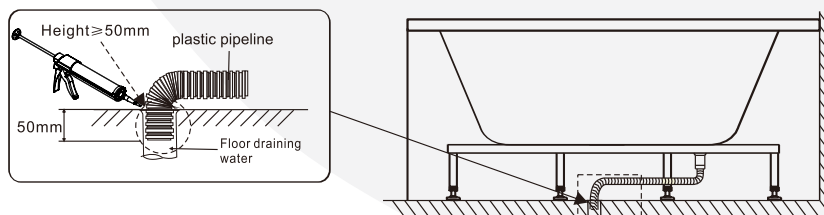

Figure 12
1. The 1" or 1.5" flexible corrugated drain pipe is arranged at the bottom of the bathtub. Fix the end of the pipe at the sewage, and seal it by the adhesive tape or silicone. Do not fold the pipe, otherwise it may adversely affect the draining effect (please note that the corrugated pipe shall be inserted into the sewer pipe for at least 50mm and completely connected and sealed to avoid any leakage) (as shown in Fig. 12).